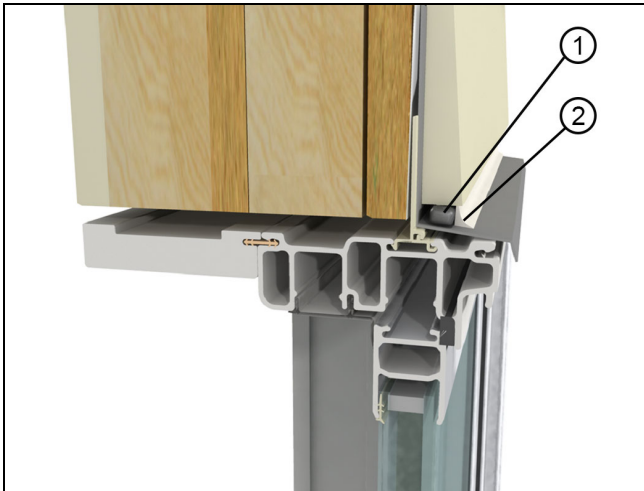

Figure 25
2. After exterior finish or siding is installed, apply sealant around the exterior perimeter of the unit frame or casing. As needed, insert backing material between the frame or casing and the structure to provide a proper sealant joint. Sealant depth must be equal to width between unit and exterior finish material (brick and masonry apply). Always refer to the manufacturers' recommendations for proper surface preparation and application. See Figure 25.